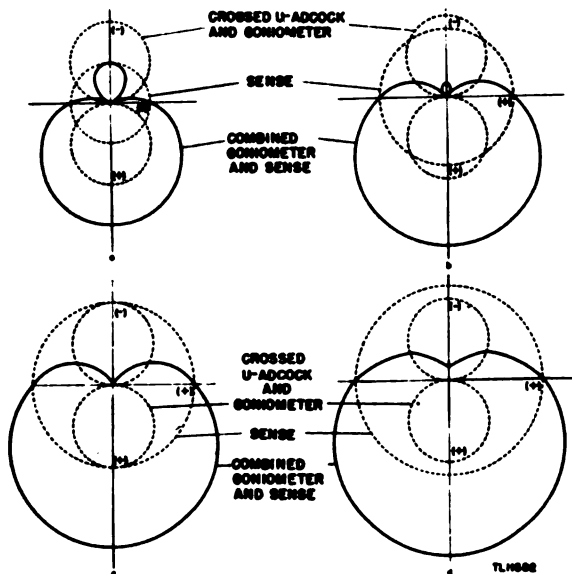

Figure 63. Combined U-Adcock and monopole antenna polar response diagram.
(1) Figure 63 shows four cardioid (heart-shaped) type polar response diagrams corresponding to the combined outputs of a U-Adcock antenna and a single monopole or sense antenna. The dotted figure eight and circle diagrams represent the individual U-Adcock and monopole response characteristics respectively. In order to indicate the phase
(2) The combined response diagrams shown by the solid curve are formed by adding the two dotted diagrams algebraically. The differences in the diagrams of figure 63 are due to differences in the relative amplitudes of the
to the receiver sense channel. The phase of the directional input is shifted  $90^\circ$ , and the voltages in the directional and sense input channels are combined. This results in an increase of receiver response from the null by an amount corresponding to the added sense input. If the goniometer dial is rotated from its former null position, the voltage in the directional channel will either add or subtract from the sense channel voltage to further increase or decrease the receiver response (fig. 63). The polarities of the sense antenna and goniometer connections are arranged so that a clockwise goniometer rotation from the null corresponding to the direct transmitter azimuth will decrease the receiver response. A counterclockwise rotation from the goniometer null will then increase the goniometer response.